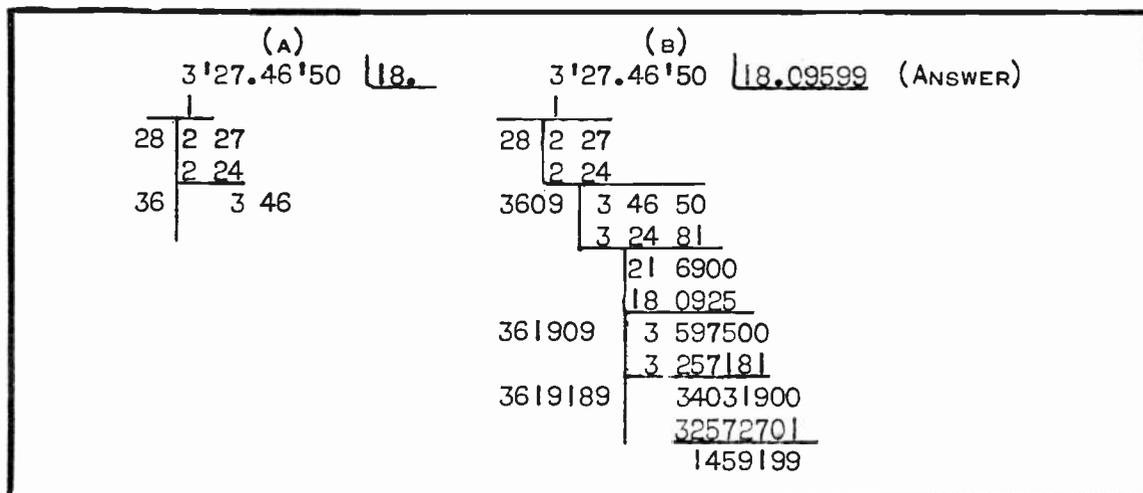

FIG. 27
NOW LET US FIND THE SQUARE ROOT OF A NUMBER, WHICH CONTAINS A DECIMAL FRACTION, SUCH AS 327.465. WE FIRST DIVIDE THIS NUMBER INTO GROUPS AS SHOWN AT (A) IN FIG. 27. IN DOING THIS, NOTE THAT WE START AT THE DEC
WE THEN FOLLOW THE GENERAL ROUTINE OF EXTRACTING THE SQUARE ROOT OF THE NUMBER AS ALREADY EXPLAINED AND AS SHOWN IN DETAILS IN STEPS (A) AND (B) OF FIG. 27. NOTICE, HOWEVER THAT WHEN WE COME TO THE FINAL STEP IN (A), THAT 36 WILL NOT GO INTO 34, THEREFORE WE MUST PUT A ZERO AFTER THE 8 IN OUR ANSWER AND ALSO AFTER THE 36 AT THE LEFT OF (A) AS SHOWN AT (B), AT THE SAME TIME ANNEXING THE 5 AND 0 TO THE 346, THUS OBTAINING THE NUMBER 34650 IN (B). THE NUMBER 360 WILL GO INTO 3465 NINE TIMES, SO THE 9 IS PLACED AFTER THE 0 IN THE ANSWER AND WE PROCEED WITH THE CALCULATIONS IN THE USUAL WAY.